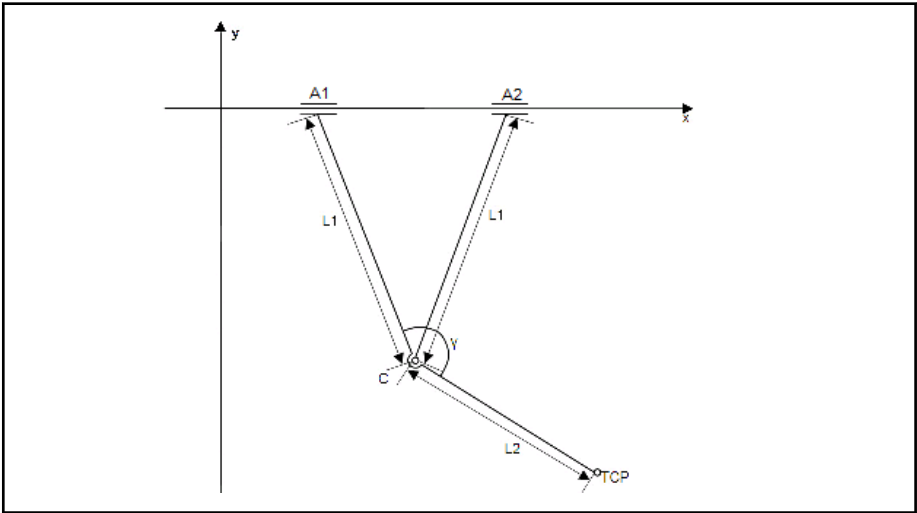

Fig. 4-46: Schematic view of 2-axis delta slide
- fig. 4-46 "Schematic view of 2-axis delta slide" on page 152 shows